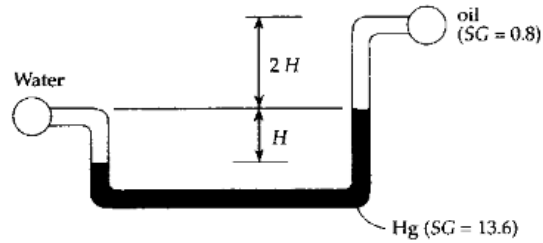

Figure 1:
1. Find the difference in pressure between the water and oil in Figure 1 if  $H = 25$  cm.